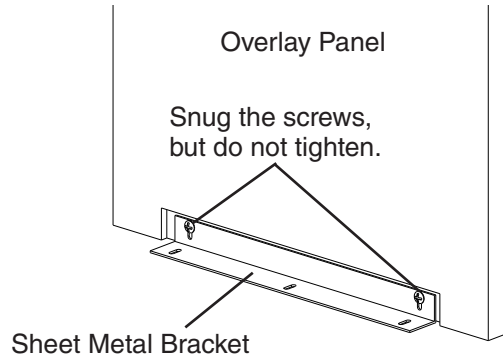

Fig. 20
- 1) Fasten the sheet metal bracket to the overlay panel using the two M4x8 truss head screws provided. **Snug the screws, but do not tighten.** See Fig. 20.